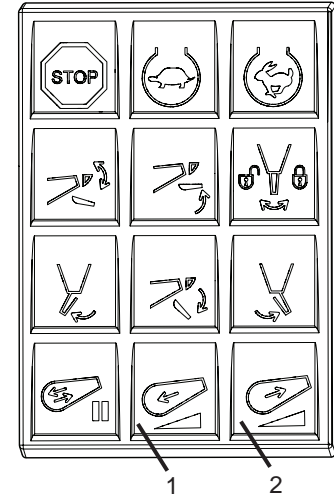

Figure 16
- If either the optional in-cab keypad or the rear pendant keypad is selected, press the CHARGE button (forward) (Figure 16, Item 1) or DISCHARGE button (backward) (Figure 16, Item 2) until the desired rotation direction starts. Valve position proportionally affects drum speed. The button indicators will illuminate.